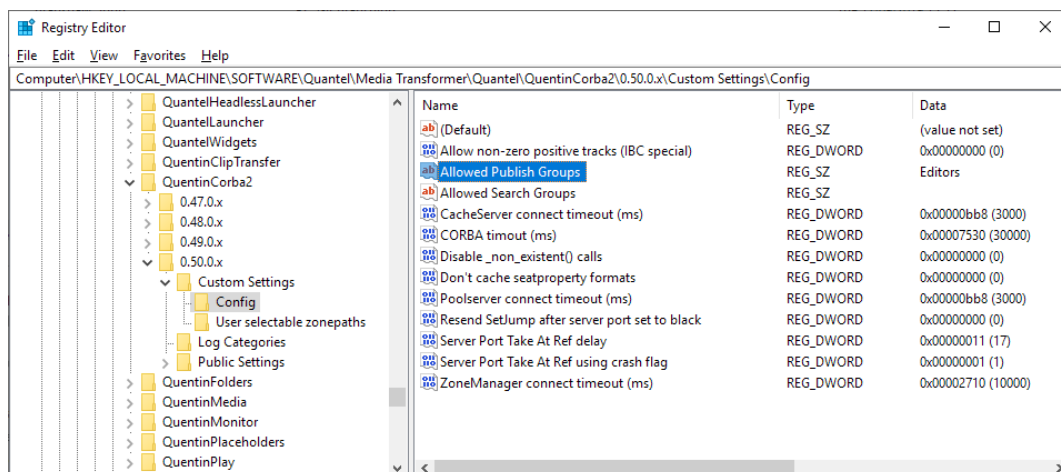

Fig. 1-14: RegEdit Change Example
- 3 Enter the group value in the **Value data** field (e.g. 'Editors', see Figure 1-14).